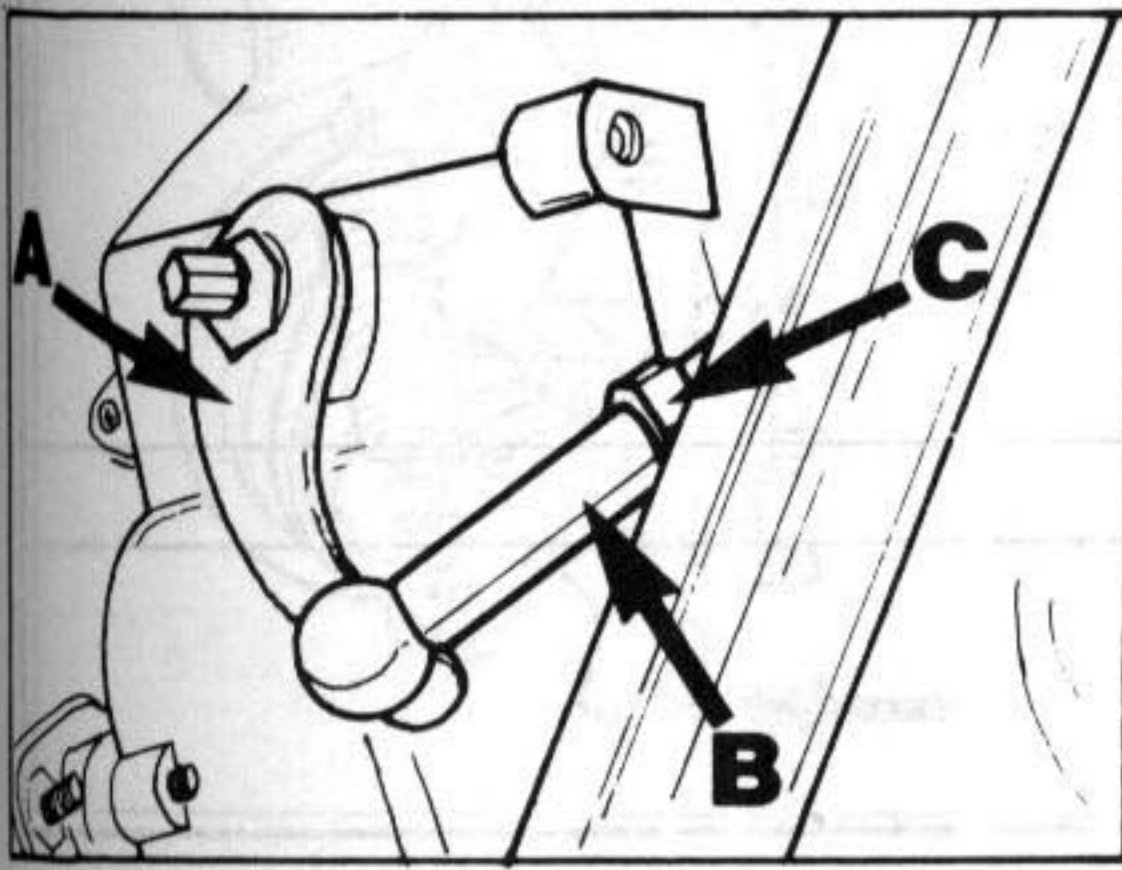

Fig. 4 Cruise control adjustment
- Release actuator rod (B, Fig. 4) from lever (A).
- Push lever (B) clockwise to idle position, and check that ball on lever aligns with socket on end of rod.
- If not, slacken nut (C) and turn rod (B) to align.
- When aligned, screw rod (B) into nut, tighten nut (C) and reattach rod to lever.